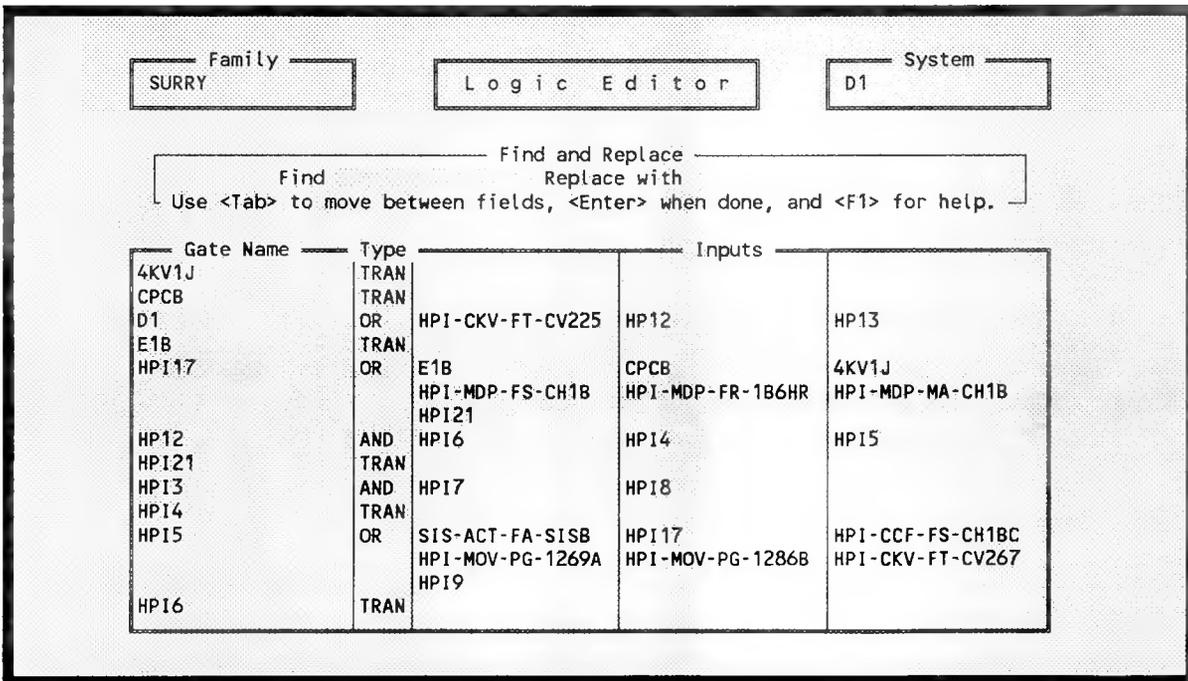

Figure 121. Find and replace an event or gate.
5.6.2.9 Replace. This option allows you to replace a gate or event name. When you invoke this option, Figure 121 is displayed. This option uses two names: the find name and the replace name. The find name is the name to be matched. It may contain any number of wild card characters. The 'replace with' field cannot contain any wild card specifications.